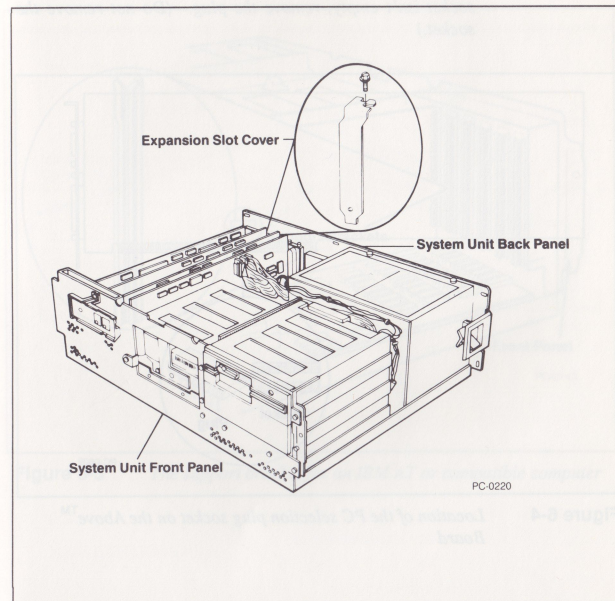

Figure 6-3 Location of the expansion slot cover on an IBM AT or compatible computer
- 3 Use a screwdriver to remove the screw holding the cover of one of the unused 16-bit expansion slots. Save the screw to use later. Remove the expansion slot cover. Figure 6-3 shows the location of the screw and the expansion slot cover.
- 2 Use a screwdriver to remove the screw holding the cover of one of the unused expansion slots. Save the screw to use later. Remove the expansion slot cover. (To find the expansion slot, refer to Figure 6-3 showing the location in an IBM AT; the location is similar in a PC, XT, or compatible computer.)